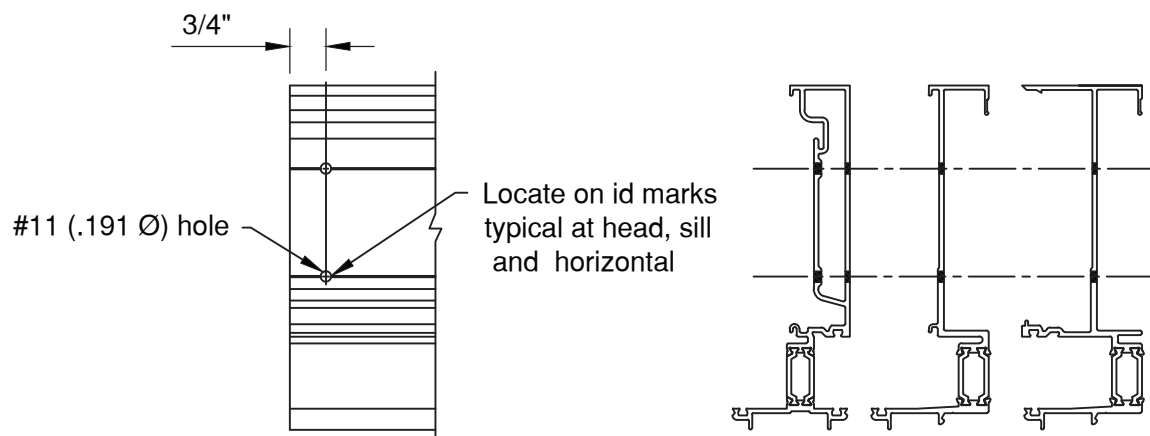
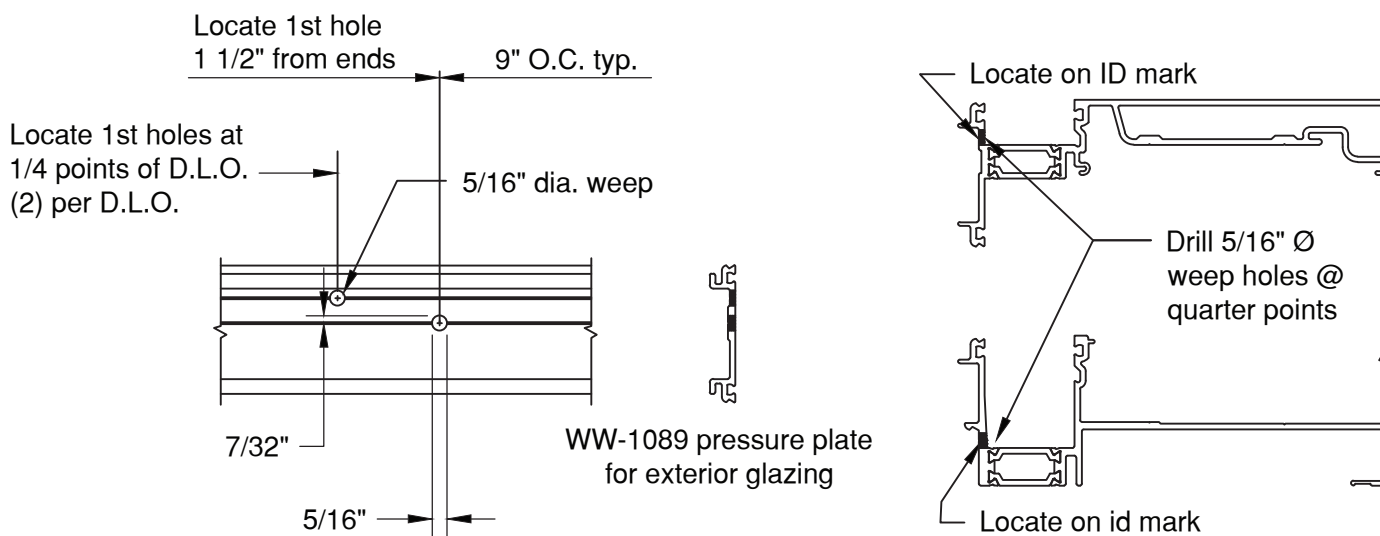

Figure 4
Figure 5
- 1.5 Drill (2) 7/32" holes on each end of horizontal for attachment to shear block. **SEE FIGURE 4.** Drill 5/16" weep holes at 1/4 points as shown in **FIGURE 5.**